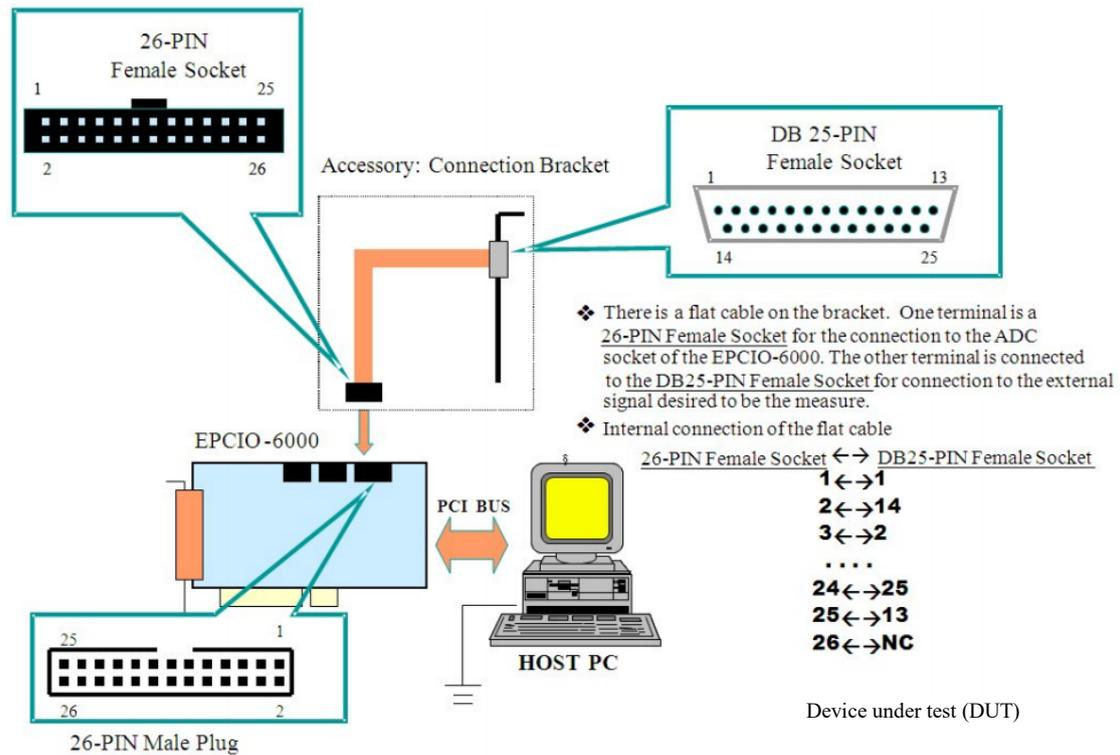

Figure 3-7.1
**3.7.1 Hardware wiring (refer to Section 3.1 Basic Installation and the following description). Taking EPCIO-6000 for example, Figure 3-7.1 shows the ADC input connections of EPCIO-6000.**